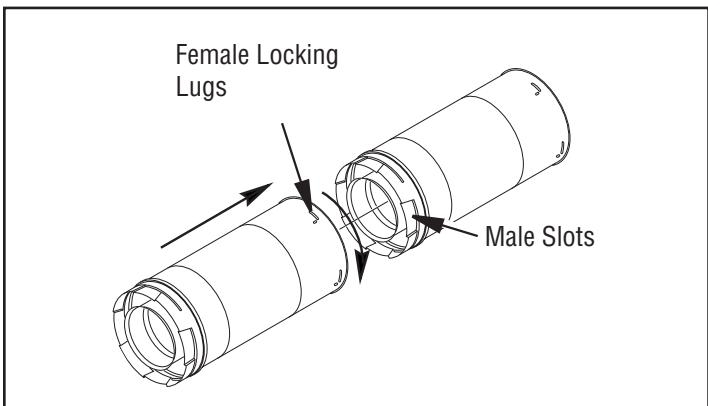

Figure 9 - Vent Pipe Connections
Twist-Lock Procedure: Female ends of pipes have locking lugs (indentations). These lugs will slide straight into matching slots on male ends of adjacent pipes. Push pipe sections together and twist one section clockwise approximately one-quarter turn until sections are fully locked (*see Figure 9, Page 13*).
- Assemble desired lengths of pipe and elbows necessary to reach from fireplace flue up through firestop. Be sure all pipe and elbow connections are fully twist-locked (see **Figure 9, Page 13**).